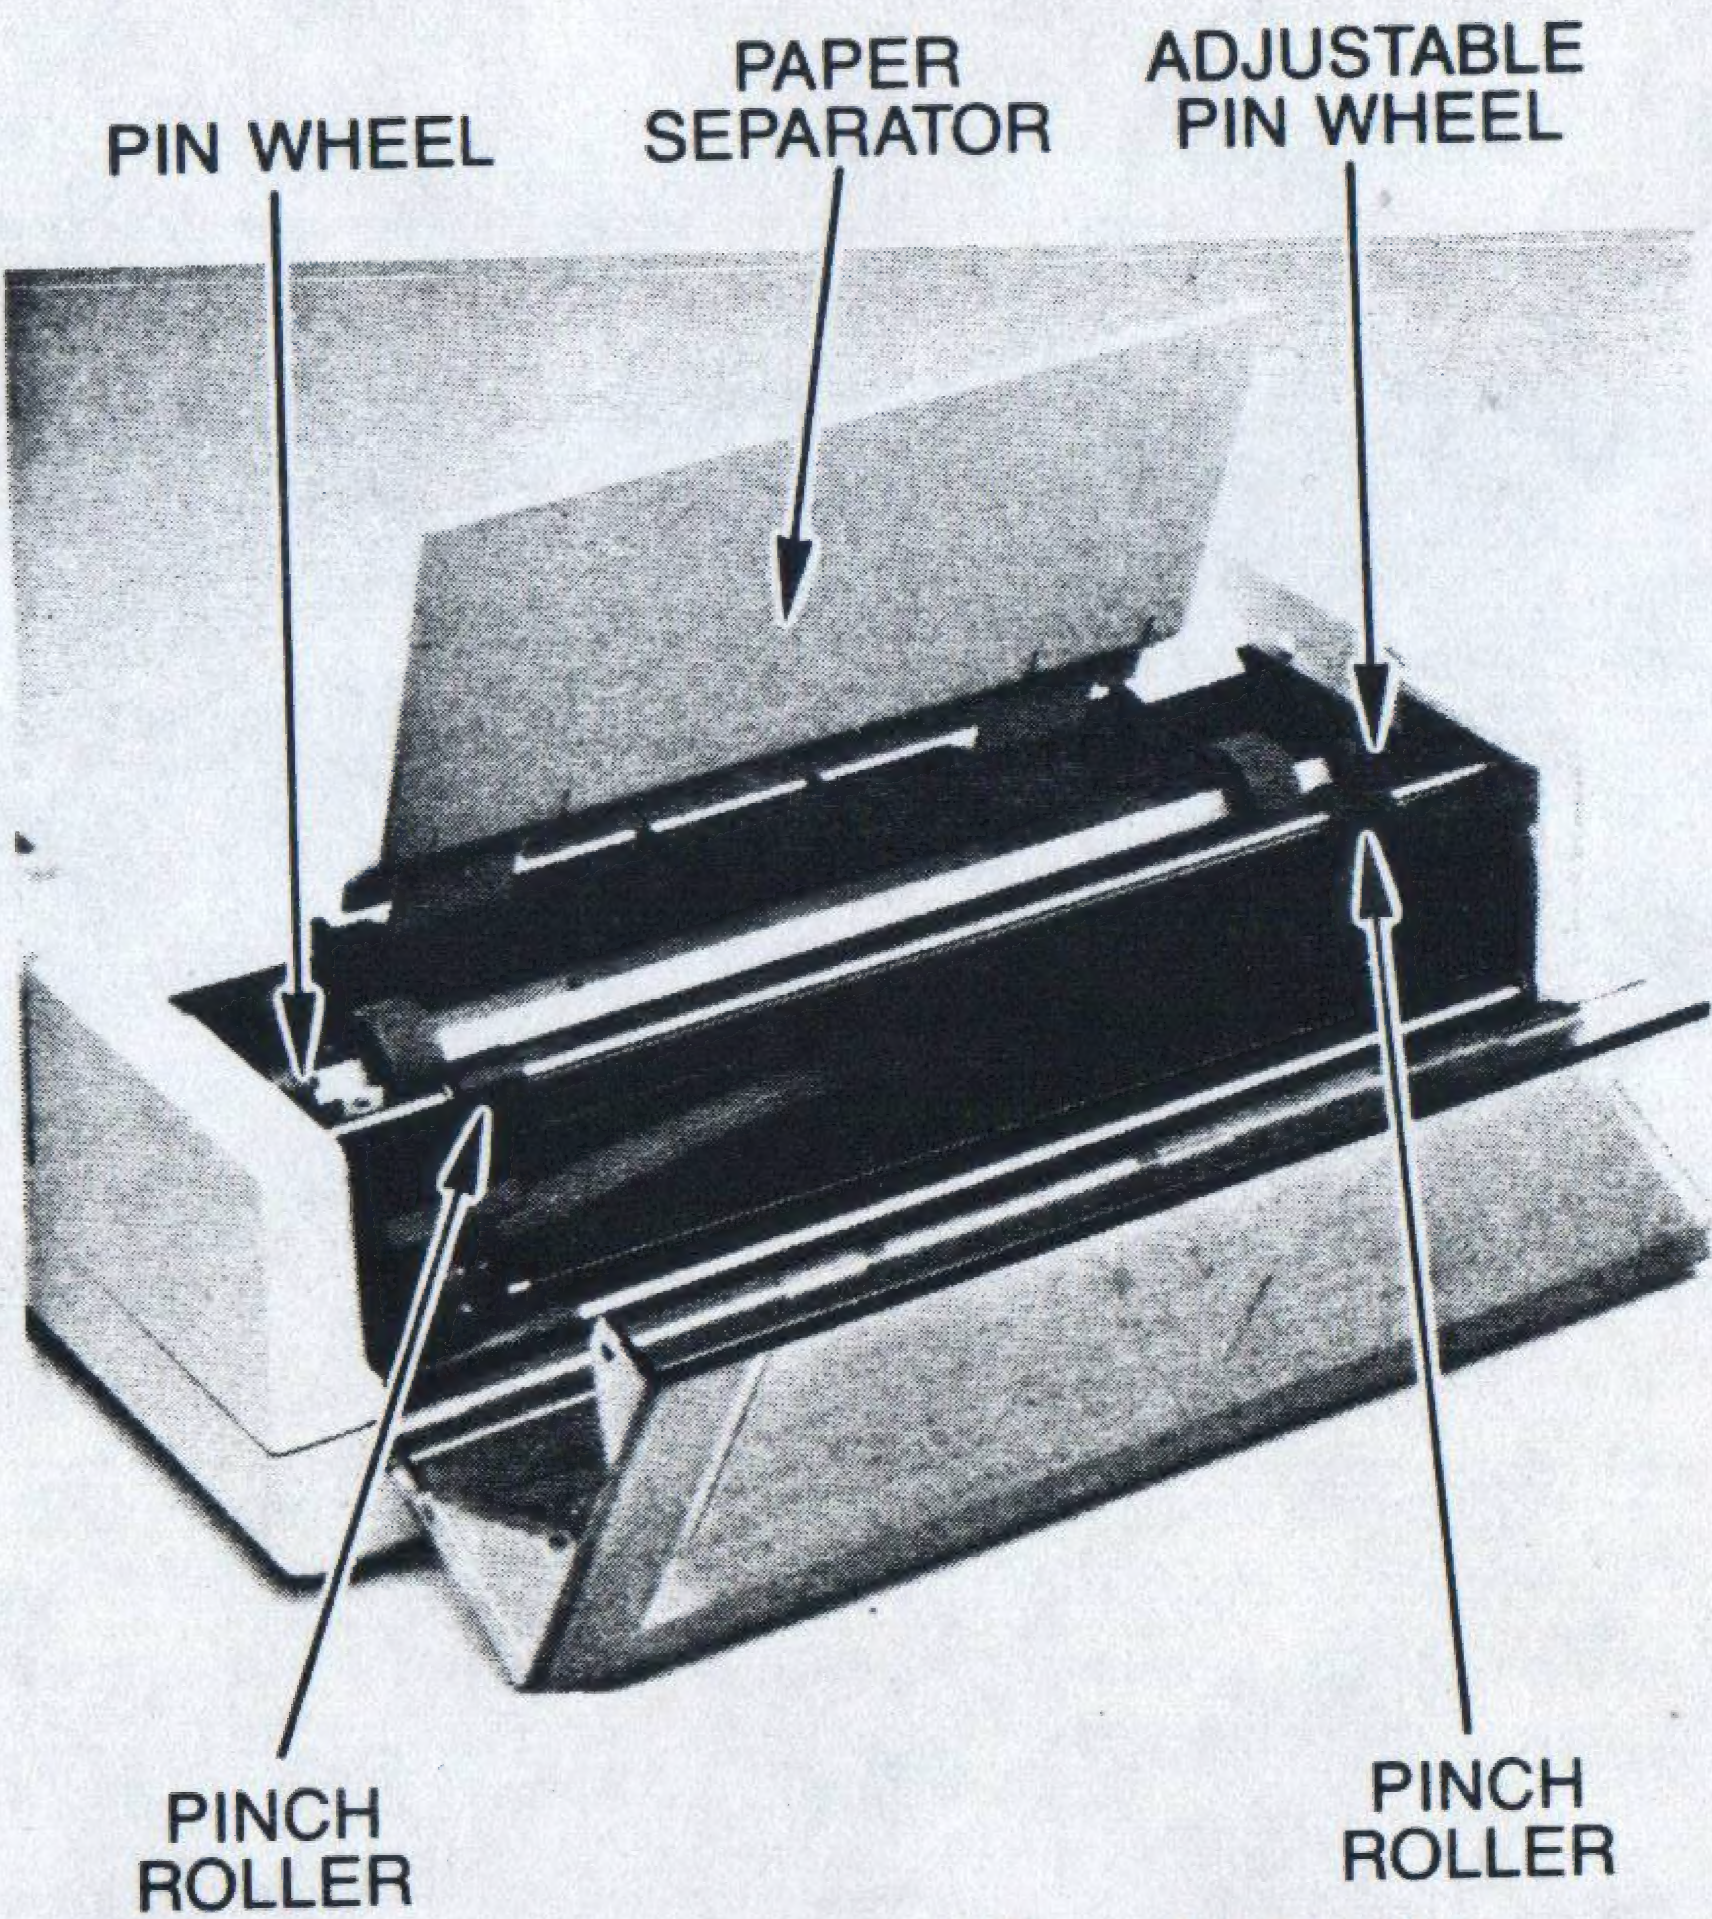

Figure 1-12 Raised Paper Separator
- Install the paper separator and raise it as shown in Figure 1-12.